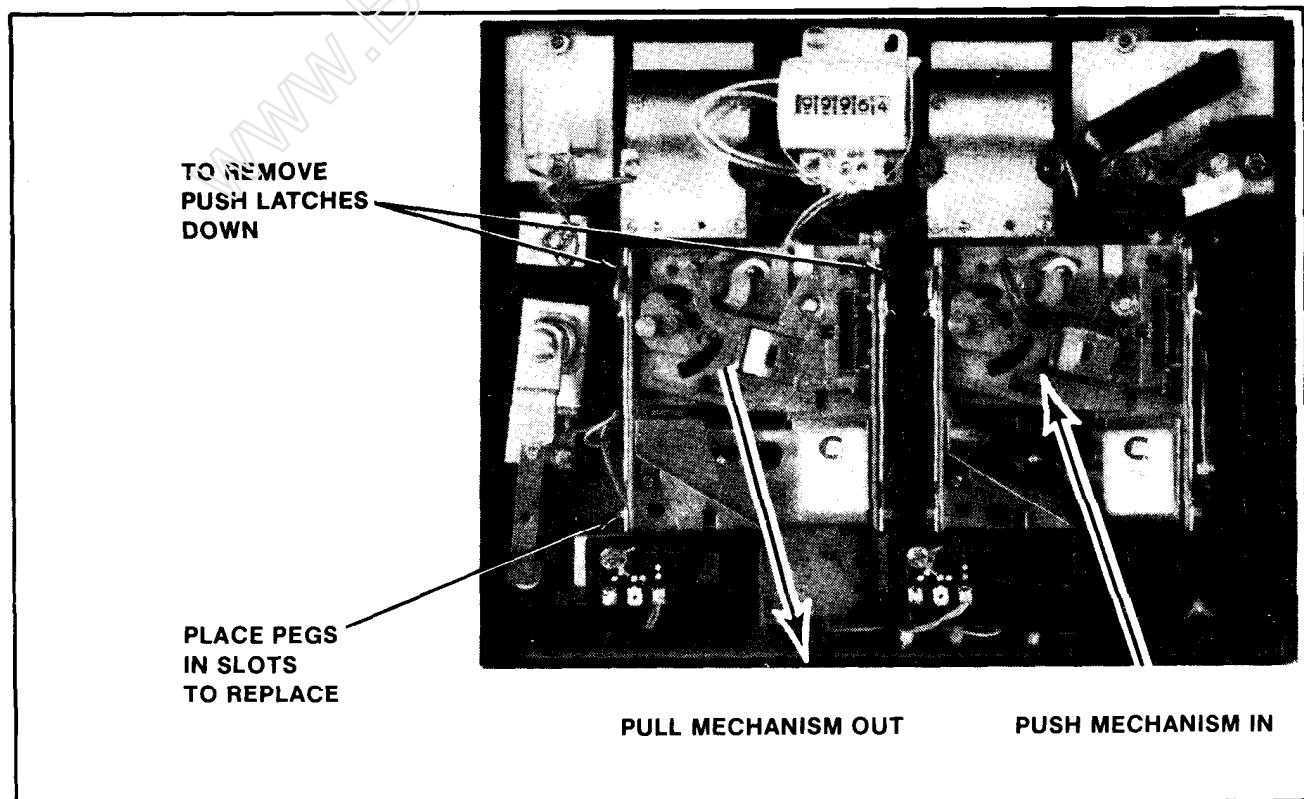

Figure 4-1 Removing and Replacing the Coin Acceptor
3. Remove the coin acceptor mechanism as shown in Figure 4-1.
9. Reinstall the coin acceptor to the coin door. See Figure 4-1.
3. Remove the coin acceptor mechanism(s) as shown in Figure 4-1.